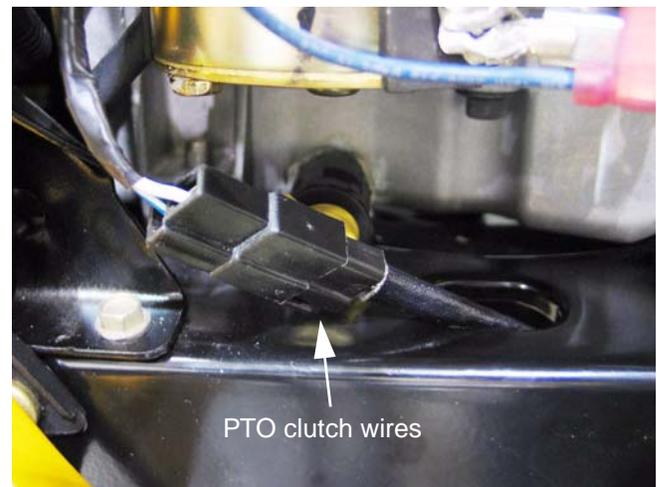

Figure 23.3
23.3. Identify and unplug the wires leading to the electric PTO clutch. See Figure 23.3.